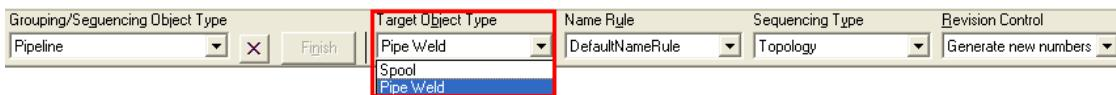

Figure 20: Target Object Type Drop-Down List on the Sequence Objects Ribbon
60. Select the **Pipe Weld** option in the **Target Object Type** drop-down list to specify the target object to be renamed on the pipeline, as shown in Figure 20.